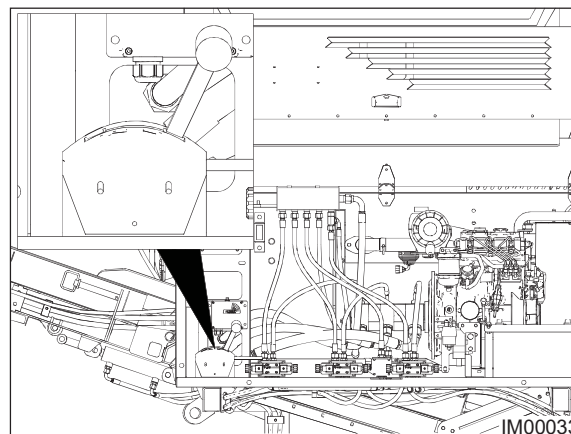

Fig: 8.15 - Throttle Lever
9. Using the Manual Throttle Lever (Fig: 8.15), increase the engine speed to maximum (2800 RPM).